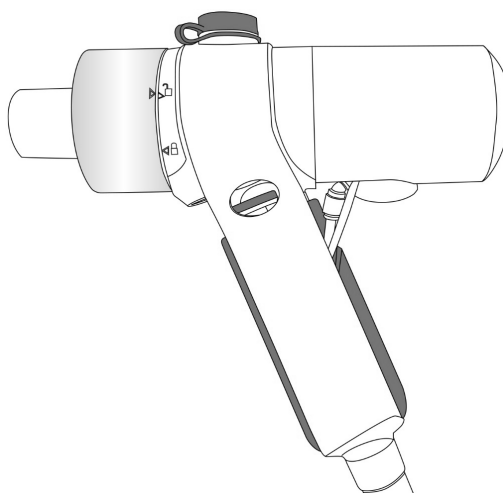
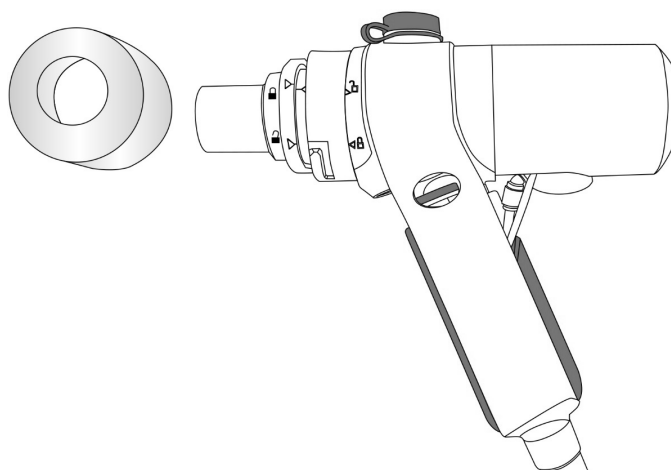

Figure 6- Front Cap in the unlock location.
Figure 7 - Flowhead with Front Cap removed.
Note: The Patient Valve must be disassembled in the orientation shown in Figure 6, with the lock/unlock features on the Left Side Casing visible at all times.
2. Turn Front Cap anticlockwise to the unlock position (Figure 6) and remove (Figure 7).